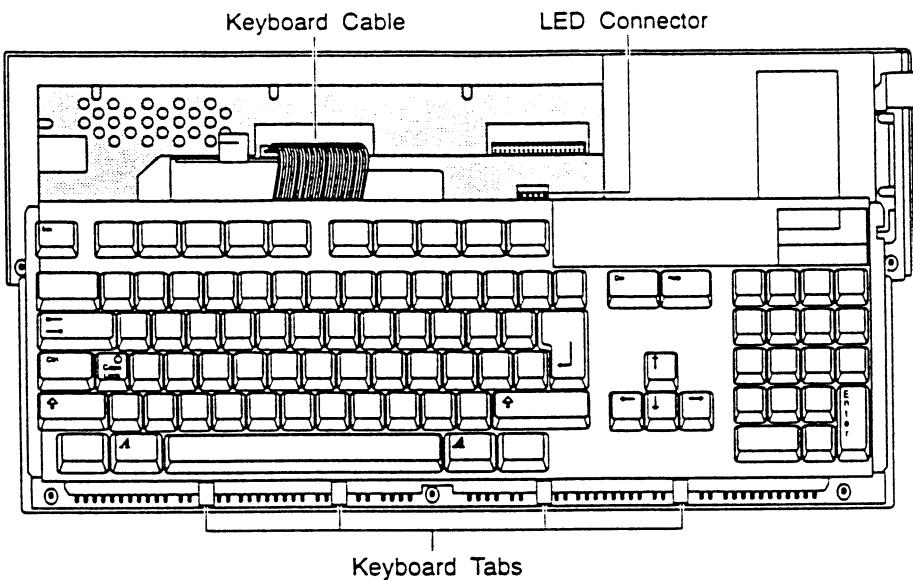

Figure 3-2. Removing the LED Connector and Keyboard
- Remove the top panel. Lift the front corners of the top panel. Slide the panel toward the back of the system case. Locate the LED connector illustrated in Figure 3-2. Slide the LED off the connector carefully before completely removing the top panel.
4. Remove the keyboard cable. Locate the keyboard cable illustrated in Figure 3-2. To release the zero insertion force (ZIF) socket, grasp the top of the socket and carefully lift it up. Use a pair of needle-nosed tweezers, if necessary, to hold the top edge of the socket as you lift it up. To avoid cable damage you must release the socket before attempting to remove the cable. Hold the keyboard ribbon cable by its outside edges and slide it out of the socket. To insert the cable, make certain the socket is lifted up in the release position. Place the cable in the socket and gently push down on the cable's outside edges to press the socket down in a locked position.
5. Remove the keyboard. Locate the keyboard tabs illustrated in Figure 3-2. Hold the top outside corners of the keyboard and lift the upper edge up slightly. Slide the bottom edge of the keyboard out of the keyboard restraining tabs on the system case.